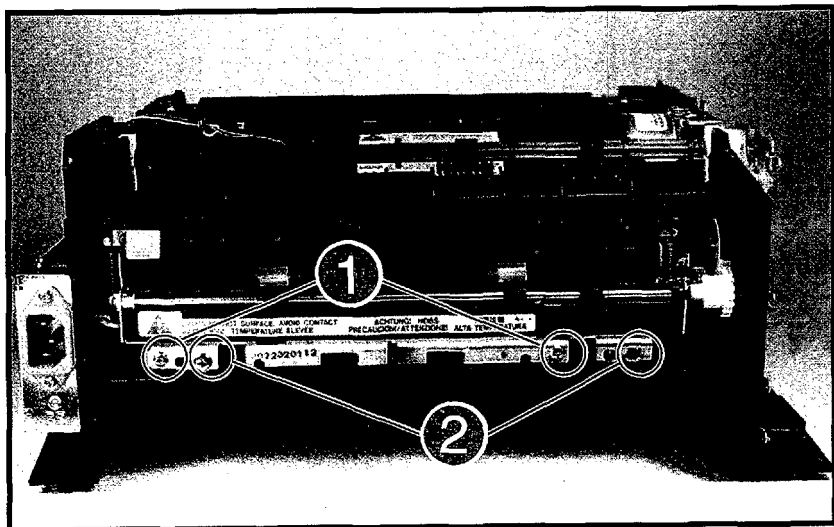
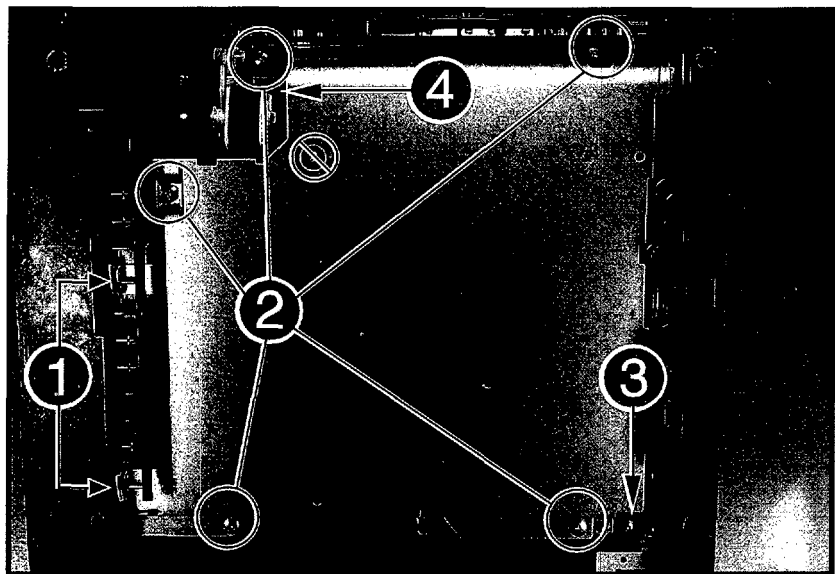
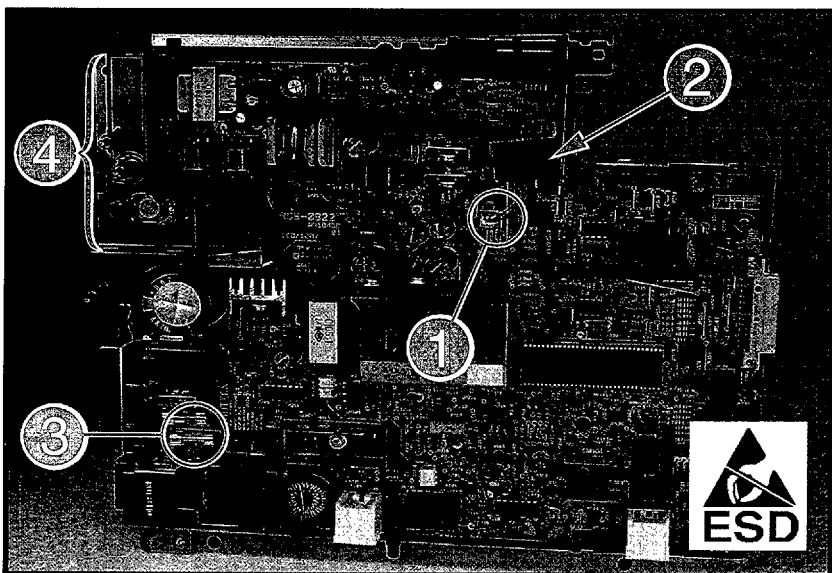
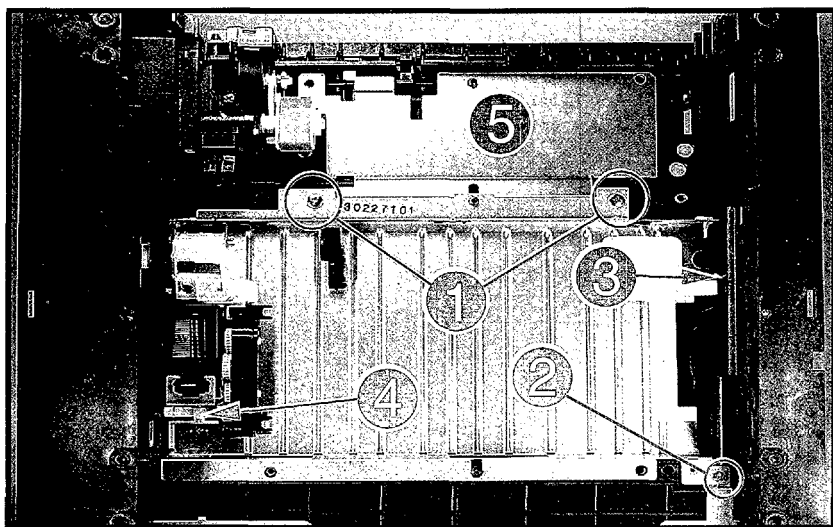

Figure 6-27 Removing the Fusing Assembly (LaserJet 4P shown)
Figure 6-36 Removing the DC Controller Assembly
Figure 6-37 Pickup Feed Roller Solenoid (on DC Controller PCA)
Figure 6-44 Removing the Feeder Guide Assembly (*LaserJet 4P* shown)
2. Remove the machine screws with star washers (1 on 4L/4ML, 2 on 4P/4MP) (Figure 6-27, callout 1).
3. Remove the (2) self-tapping screws (Figure 6-27, callout 2).
1. Remove the Printer Cover, the Fusing Assembly (Figure 6-27), the Formatter Shield and PCA (Figure 6-13), and the Power Switch Assembly (*LaserJet 4P/4MP only* - Figure 6-23).
2. Remove the (2) screws that attach the grounding springs to the Gear Train Assembly (Figure 6-36, callout 1).
3. Remove the (5) self-tapping screws and the (1) machine screw from the bottom of the DC Controller Assembly (Figure 6-36, callouts 2 and 3). Do not remove the Pickup Solenoid screw (crossed circle in Figure 6-36).
4. Push the Pickup Feed D-Roller solenoid arm in and rotate the D-Roller down, clear of the solenoid arm (Figure 6-36, callout 4).
When removing the DC Controller Assembly there will be resistance where the connectors are attached (on the left in Figure 6-36). A firm tug may be necessary to free the assembly.
When reinstalling the DC Controller, be sure to use a short length (6 mm) machine screw at Figure 6-36, callout 3. A longer (10 mm) screw will obstruct the Fusing Assembly.
1. Remove the Fusing Assembly (Figure 6-27), the Formatter Shield and PCA (Figure 6-13), and Power Switch Assembly (*LaserJet 4P/4MP only* - Figure 6-23), and the DC Controller Assembly (Figure 6-36).
2. Remove the (1) machine screw holding the Pickup Solenoid from the lower side of the DC Controller Assembly (the crossed circle shown in Figure 6-36).
3. Unplug the Pickup Solenoid connector (Figure 6-37, callout 1) and remove the solenoid (Figure 6-37, callout 2).
There are two in-line fuses (one on 220 V units) on the component side of the DC Controller PCA (shown in Figure 6-37, callout 3). (The rated amperages are printed on the PCA.) Pull outward to remove.
This assembly is mounted on the component side of the DC Controller PCA, and provides high voltage contact points to the toner cartridge (shown in Figure 6-37, callout 4). To remove, press the two tabs in on either side of the cover and lift it straight up and off.
1. Remove the Fusing Assembly (Figure 6-27), the Formatter Shield and PCA (Figure 6-13), and the Power Switch Assembly (*LaserJet 4P/4MP only*- Figure 6-23).
2. Remove the DC Controller Assembly (Figure 6-36), Pickup Solenoid, and High Voltage Connector Assembly (Figure 6-37).
1. Remove the Printer Cover, the Fusing Assembly (Figure 6-27), the Formatter Shield and PCA (Figure 6-13), the Power Switch Assembly (*LaserJet 4P/4MP only*- Figure 6-23), and the DC Controller Assembly (Figure 6-36).
1. Remove the Printer Cover, the Fusing Assembly (Figure 6-27), the Formatter Shield and PCA (Figure 6-13), the Power Switch Assembly and Font Cartridge Bracket (*LaserJet 4P/4MP only*-Figure 6-23 and 6-16), and the DC Controller Assembly (Figure 6-36).
2. Remove the (2) self-tapping screws and the (1) machine screw from the Feeder Guide (Figure 6-44, callouts 1 & 2).
3. *LaserJet 4P/4MP*: Push the power switch grounding strap outward to provide clearance (Figure 6-44, callout 3).
LaserJet 4P/4MP: Carefully free the Small Media Roller drive shaft before lifting upward to avoid damage (Figure 6-44, callout 4).
LaserJet 4P/4MP: Carefully align the Small Media Roller drive shaft (Figure 6-44, callout 4) before installing the Feeder Guide.
1. Remove the Printer Cover, the Fusing Assembly (Figure 6-27), the Formatter Shield and PCA (Figure 6-13), the Power Switch Assembly (*LaserJet 4P/4MP only*- Figure 6-23), the DC Controller Assembly (Figure 6-36), and the Feeder Guide Assembly (Figure 6-44).
Carefully align the Small Media Roller drive shaft (Figure 6-44, callout 4) before sliding the Feeder Guide into place.
2. Remove the Laser/Scanner Assembly (Figure 6-21), the Gear Train Assembly (Figure 6-15), the DC Controller Assembly (Figure 6-36), and the Feeder Guide Assembly (Figure 6-44).